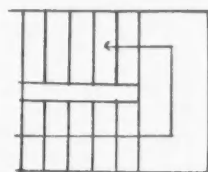

Fig. 3
2. The dimensions of landings should be equal to or greater than the width of stairways between handrails (or handrail and wall). (Fig. 3)